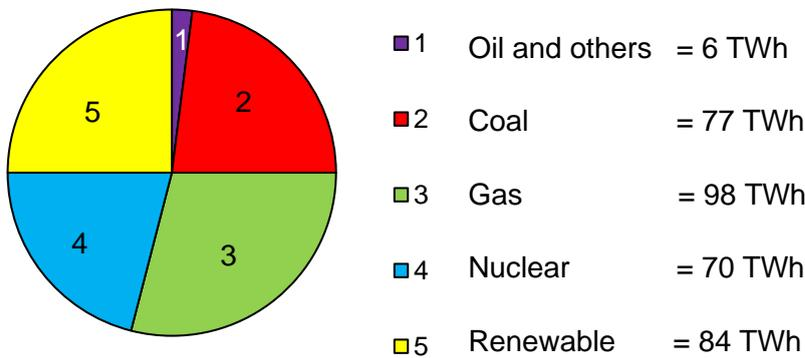

Fig. 8
- (c) Fig. 8 shows a pie chart of the quantity of electricity generated by different types of fuel in the UK in 2015.
- (ii) Hydro-electricity is one type of renewable energy shown in Fig. 8.